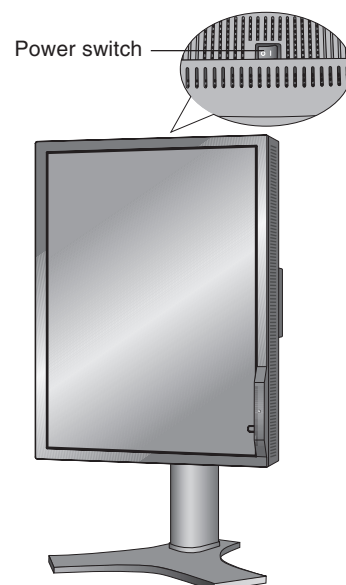

Figure E.1
10. Turn on the monitor with power switch on the top (Portrait) or left side (Landscape) of the monitor (**Figure E.1**). Turn on the computer.